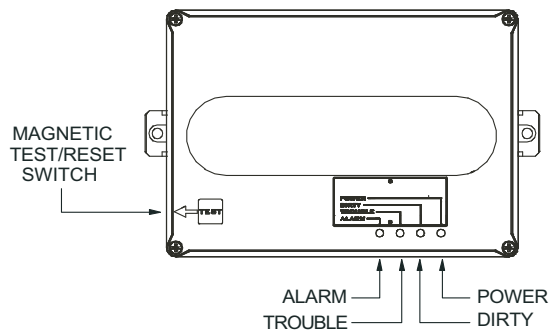

Fig. 12 — Sensor Assembly
1. Locate sensor from the CRSMKSEN003A00 kit (see Fig. 12).
3. Locate respective bracket from kit CRSMKKIT003A00 and locate the sensor from the CRSMKSEN003A00 (see Fig. 12).